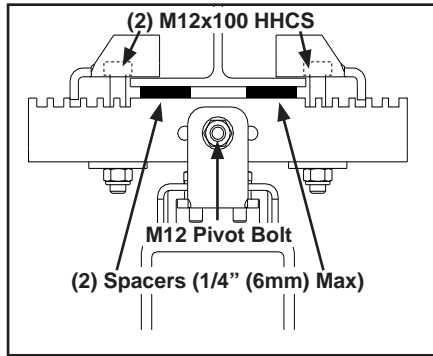

Figure 3-26
- Step 2. If leveling is required, loosen M12 x 100 mm HHCS , I-Beam bracket bolt and insert spacers, maximum 1/4 in (6 mm), between I-Beam bracket and bottom flange of I-Beam. See Figure 3-26.